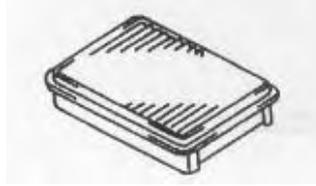

FIG.8-1
(1) Take out the air cleaner element from the air cleaner shell. (FIG.8-1)